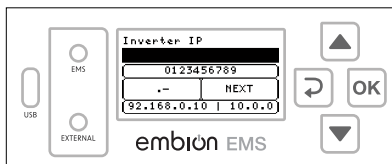

fig. 16: Input wizard
- 7.1** On the Embion EMS controller there are multiple inputs required like IP addresses, IP address ranges and names. (fig. 16) The steps below will explain how to use the buttons to insert characters.